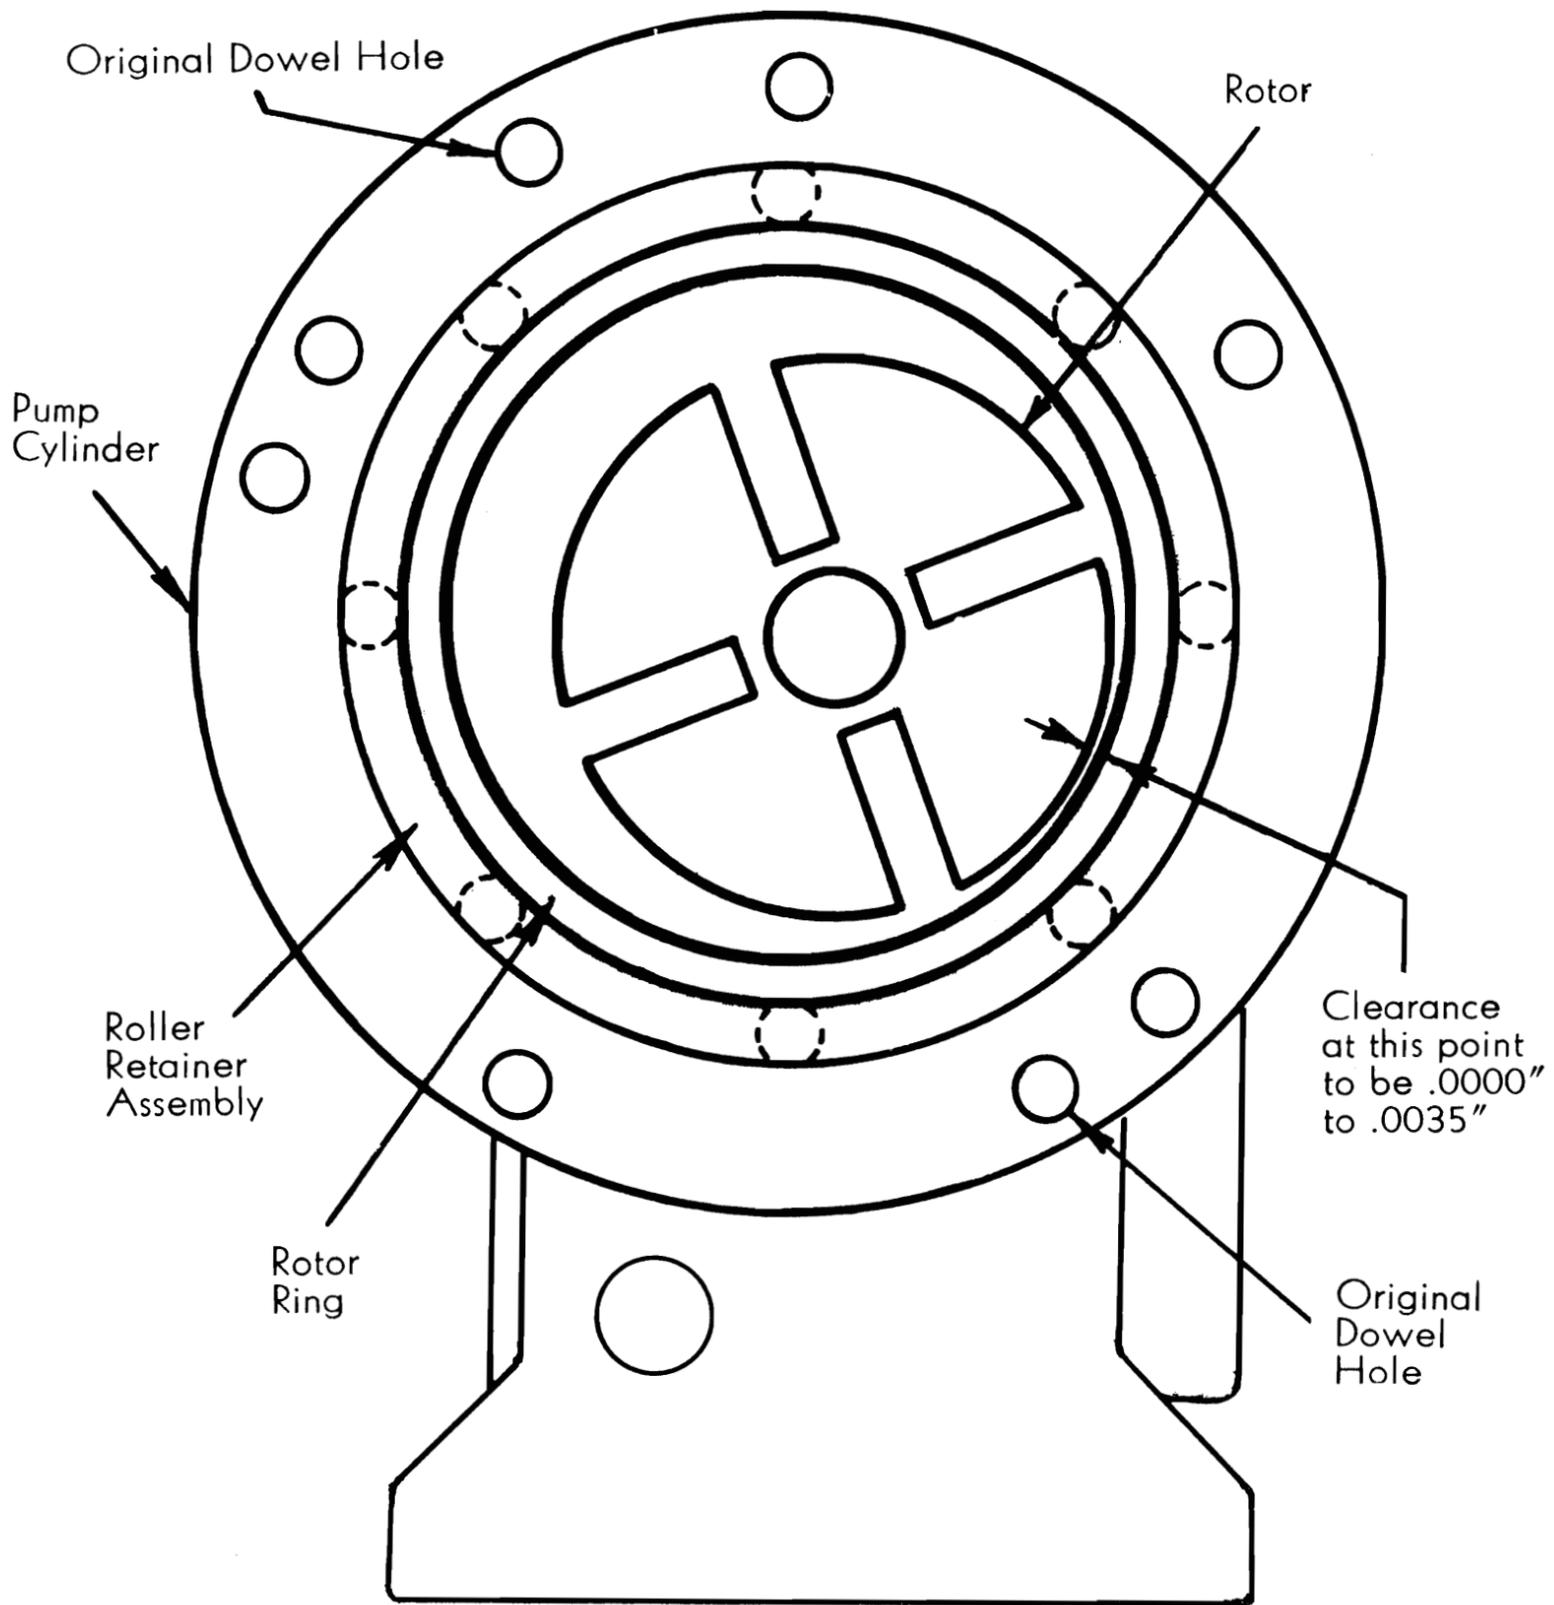

FIGURE 14
It has been found that another reason for lack of vacuum is because some pumps have too much clearance between the rotor and rotor ring. See Figure 14. This clearance should be no more than .0035" and may be kept as close as possible without straining the parts. If it is necessary to decrease this clearance, the pump cylinder must be moved up and to the left as follows:
5. Tap the cylinder up and to the left until the rotor ring just touches the rotor at A, Figure 14, and tighten the screws. It will not be harmful to have these parts touching if there is no strain. Turn the shaft to check all sides of the rotor. Also, check with the vanes, springs and pins in place to be sure the vanes can be forced below the circumference of the rotor without jamming.